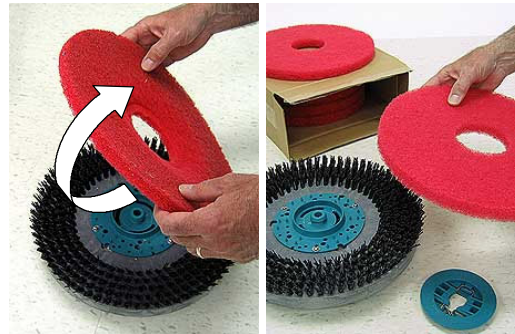

FIG. 91
5. Disk scrub head - Turn pad over or replace when worn (Figure 91).